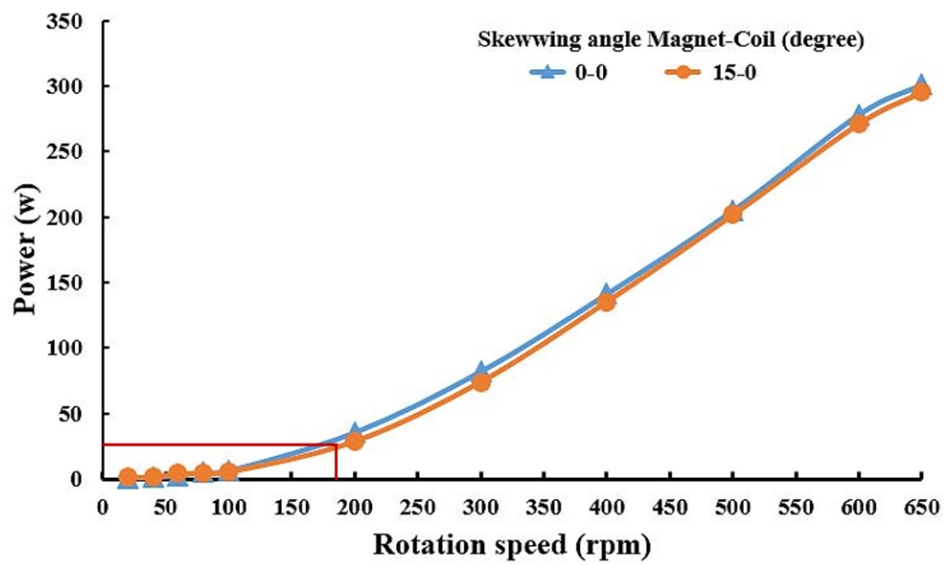

Fig. 3. 9
Comments 1) To split the results and the discussion into two different sections in the paper. I think the discussion will be more clear if all results are presented first and then they are discussed in a separate section. 2) The authors have to explain the experimental procedure more clearly in terms of what the rotation speed is during the presented test results. This is especially the case for figure 3 and figure 4. 3) For vertical axis wind turbines there is often a linked relation between the turbine shaft power and both the incoming wind speed as well as the turbine rotation speed. Thus
3.5 It will be good if this is discussed in relation to the start-up torque measurements presented in figure 3 and 4.
- Our article have already edited that split the results and discussion - All the rotational speed of 650 rpm, the maximum power generated around 300 W, but it is depend on the skewing magnet and coils technique. - This article explained more the relationship between Figure 4 (b) [Orinal Figure 3(b)] and Figure 5 [Original Figure 4] by “Fig 5 shows comparison values between the starting torque that collected peaks value from Figure 4 (b) and power when changing the skewing angle magnet-coils in the PMSG generator.”
was added Figure.3. For explained the relationship between figure 8 and 9 (original Figure 7 and 8) that Figure 8 shows the related between rotation speed, torque and wind speed. Figure 9 is related to Figure 8 by rotation speed which used skewing angle magnet-coil at 15-0 degree, it can be really reduced starting torque and cut-in at 2.1 m/s.
3.5 Figure 4(a) [original Figure 3 (a)] represents the starting torque are without electrical load. Figure 4(b) [original Figure 3 (b)] represented the starting torque are connected the electrical load. Figure 5 [Original Figure 4] is related Figure 4(b) [original Figure 3 (b)] which Figure 5 was compared the maximum peaks of starting-up torque at all the skewing magnet – coils that looking for high power and low start-up torque.